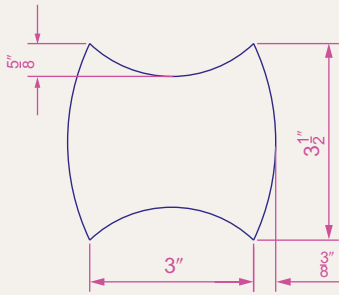
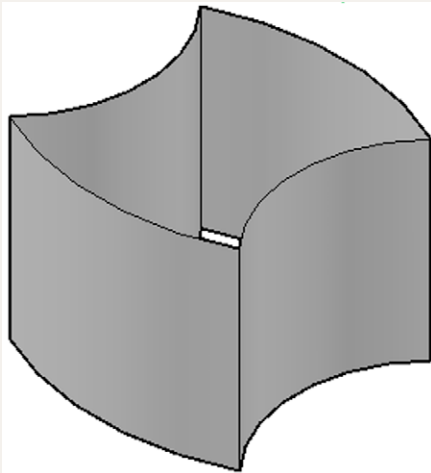

Fig. 14.41 Exercise 5 – outline to be extruded
Fig. 14.42 Exercise 5
### Second example – 3D Surface (Fig. 14.41)
5. In the **Top** view on a layer colour **blue** construct the four polylines (Fig. 14.41). Call the **Extrude** tool and extrude the polylines to a height of **80** and place in the **Isometric** view. Then call **Visual Styles/Shades of Gray** shading (Fig. 14.42).